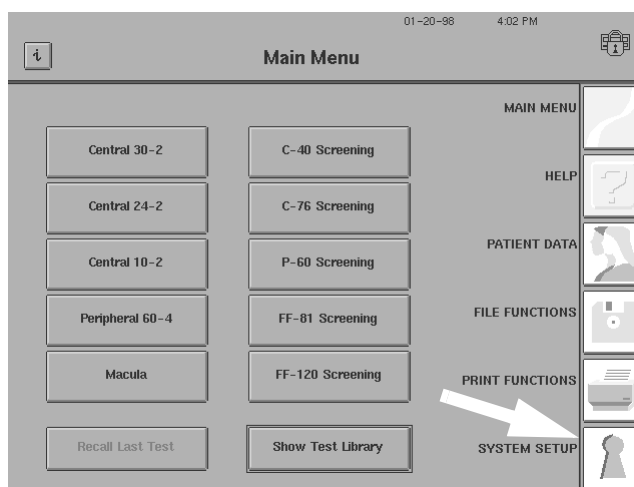

Figure I.2 Main Menu Screen
- 1 Go to the Main Menu, select *SYSTEM SETUP* (Figure I.2).